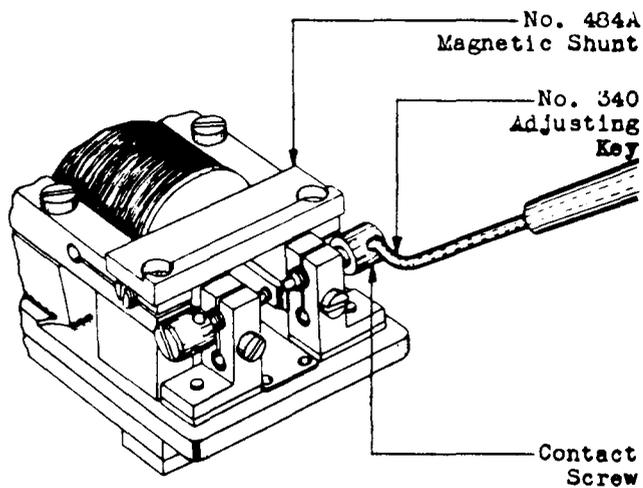

Fig. 9 – Method of Adjusting For Contact Travel
(5) If the pole-piece screws appear dirty, clean them as outlined in 3.01.
(6) **Contact Alignment** — To align contacts vertically, move the armature up or down as required as outlined in (5).
(7) To align the contacts from front to rear, loosen the armature clamping screws and the right-hand yoke mounting screws with the 4" regular screwdriver and move the armature backward or forward as required. If it is impossible to align the contacts in this manner loosen the screws holding the contact screw bracket to the base of the relay using the 3" cabinet screwdriver. Then move the bracket until the contacts line up properly. In making this adjustment it is desirable to set the contact screw brackets so that the contact screws strike the contacts on the armature as near the center as possible. In making this adjustment it is desirable to see that the contact screws are in horizontal and vertical alignment with each other as gauged by eye. Retighten the armature clamping screws, then retighten the yoke mounting screws securely.
(8) After this adjustment has been completed firmly retighten all screws which were loosened and readjust in accordance with 3.09.
(10) Check that the flexible springs rest against each other in line with the armature with a pressure of 20 to 70 grams. For armatures having duckbill-type flexible contact springs, the tension shall be measured at the unclipped corner on the tip of one spring while holding the other spring at its unclipped corner so that it cannot follow its mate. For armatures having standard-type flexible contact springs, the tension shall be measured at the contact of one spring, with the other spring held so that it cannot follow its mate. Before making this check, it will be necessary to back off the contact screws equally to give about 0.012-inch contact travel. Place the No. 484A magnetic shunt across the front end of the yoke above the pole pieces, as shown in Fig. 9. Use the No. 70J gauge to measure the tension and hold the other spring with the flat end of the KS-6320 orange stick. If the springs do not have the proper tension, replace the armature as covered in (9). Reset the contact screws and adjust as covered in 3.09.
(3) Insert the relay in the connecting block of the testing equipment and place the 484A magnetic shunt across the front end of the yoke directly above pole pieces as shown in Fig. 9. This should result in freeing the armature from magnetic influence sufficiently to cause it to assume a position approximately midway between the pole-piece screws provided the contact screws do not interfere. Loosen the contact clamping screw with the 3" cabinet screwdriver. Connect battery to the contacts by means of the testing equipment. If the armature rests against either contact under this condition back off the contact screw until it clears the armature.
(4) Adjust the total contact travel on relays used in telegraph service as outlined in Method A below. Adjust the travel on all other relays as outlined in Method B.
Method B: Turn in one contact screw with the No. 340 adjusting key as shown in Fig. 9 until it just touches the armature as indicated by the testing equipment and then back it off one half the specified total contact travel. Each division on the head of the contact screw corresponds to 0.001 inch of contact travel. Tighten the contact clamping screw securely. Repeat the above operation with the other contact screw.
(8) With the relay inserted in the connecting block of the testing equipment, loosen the pole-piece clamping screws with the 3" cabinet screwdriver and back off the pole-piece screws as far as possible using the 3" cabinet screwdriver. Back off the contact screws so that they do not touch the armature. Place the 484A magnetic shunt across the front end of the yoke directly above the pole pieces as shown in Fig. 9.
(9) Adjust the total contact travel on relays used in telegraph service as outlined in Method A below. Adjust the travel on all other relays as outlined in Method B.
Method B: Connect battery to the contacts of the relay with the testing equipment and advance one contact screw with the No. 340 adjusting key as shown in Fig. 9 until the screw just touches the armature as indicated by the testing equipment. Then back off the contact screw one half the total contact travel. Each division on the head of the contact screw corresponds to 0.001 inch of contact travel. Tighten the contact clamping screw securely.
(26) **Initial Check of Pole-Piece Screw Adjustment** — If the pole-piece screws do not require cleaning, check the adjustment before disturbing the contact screws. Place the 484-A magnetic shunt across the front end of the yoke directly above the pole pieces as shown in Fig. 9. If the armature contacts stand approximately midway between the screw contacts, the pole-piece screws can be assumed to be in reasonably good adjustment and it will not be necessary to readjust them. If the armature contacts do not stand approximately midway between the screw contacts, it is an indication that the overall adjustment of the relay can be improved and any readjust-
(27) **Contact Travel:** Loosen the pole-piece clamping screws with a 3" cabinet screwdriver and back off the pole-piece screws with the No. 340 tool. Back off the pole-piece screws all the way if the pole-piece screws are to be cleaned or adjusted. If cleaning or adjustment of the pole-piece screws is not required, place the 484-A magnetic shunt across the front end of the yoke directly above the pole-piece screws as shown in Fig. 9.
(28) Loosen the contact clamping screws with a 3" cabinet screwdriver, but not sufficiently to prevent holding the contact screws during adjustment. Back off one contact screw about one turn.
(29) Advance the other contact screw until it just touches the armature contact. This can be checked for by pressing the other side of the armature lightly with a No. 340 tool and observing whether there is any follow of the armature toward the adjusted contact.
(30) Back off the contact screw .002". This is equivalent to two divisions on the head of the contact screw. Tighten the contact clamping screw.
(31) Repeat the adjustment in (5) for the other contact screw. The total armature travel will then be .004" and the armature will stand midway between the contacts.
(32) Remove the No. 484-A magnetic shunt, if it has been used. If the pole-piece screws are to be adjusted, as determined in (26), proceed with paragraph (34).
(33) If the pole-piece screws are not to be adjusted, as determined in (26), the "tipping test" as described under (34)(b), "Final" Adjustment, should be made. The relay armature should fall at approximately the same angle on each side. If these angles are unequal advance one contact screw slightly and back off the other slightly by the same amount. By this process the tipping angles may be made equal.